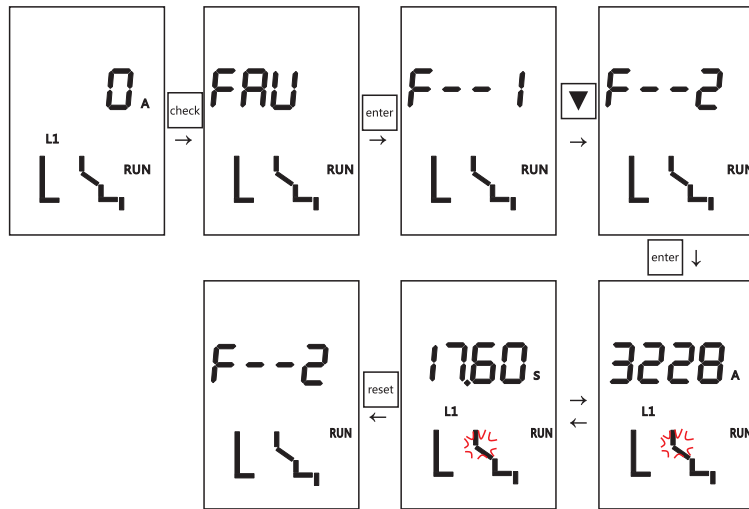
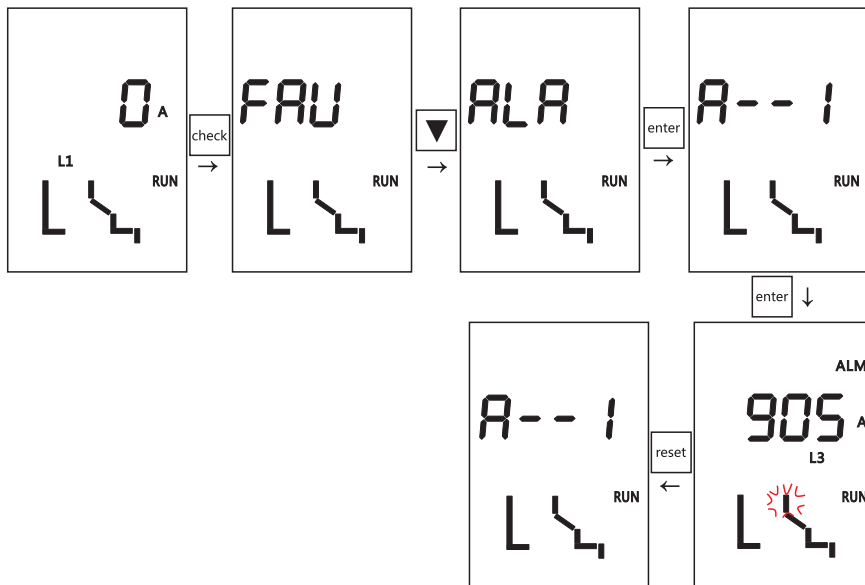
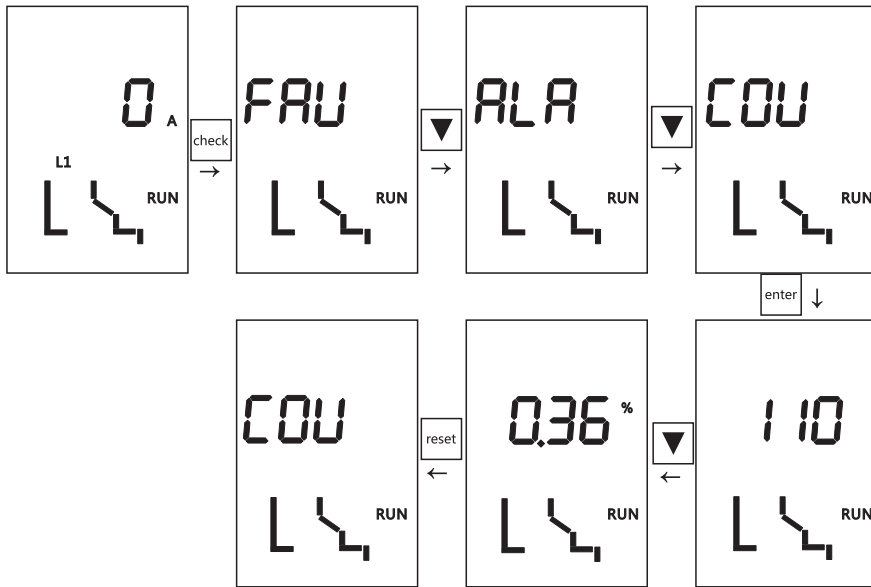
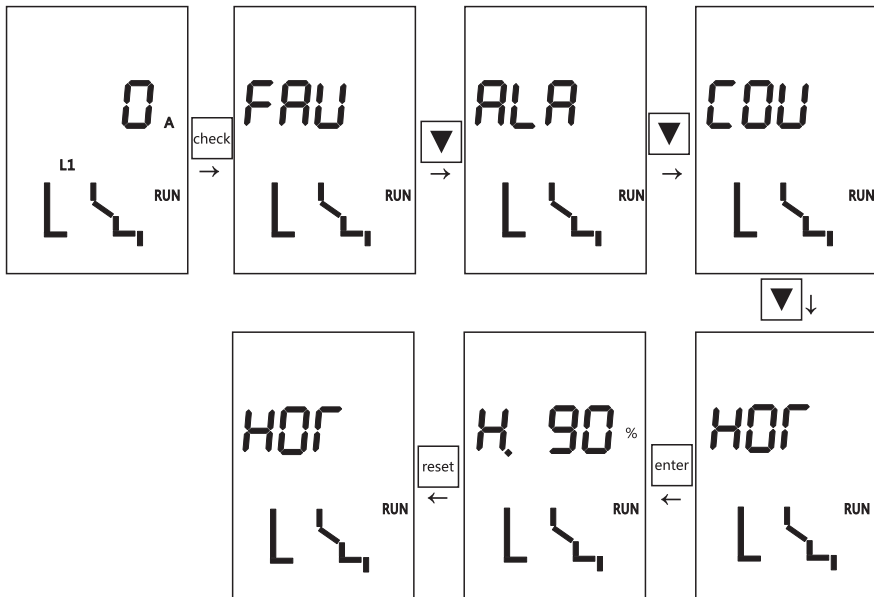

Figure 65. Querying the second fault record
Figure 66. Querying the first alarm record
Figure 67. Querying the number of operations and the life of the circuit breaker
Figure 68. Querying the thermal capacity when the circuit breaker is released due to faults
(3) Query status: The query status may be entered by pressing the "Query" button in the default interface. In the query status, the recent 10 fault records, recent 8 alarm records, the number of circuit breaker operations, life records and heat capacity information may be queried. For examples, see Figure 65, Figure 66, Figure 67 and Figure 68.